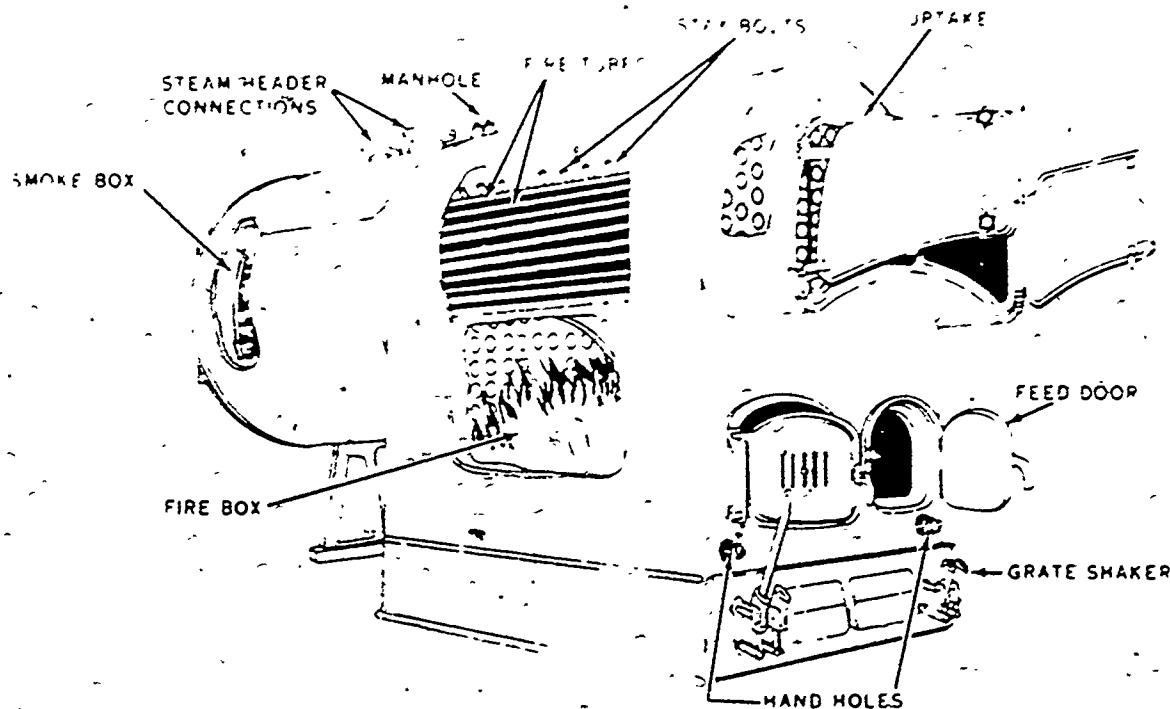

Figure 2-1. A locomotive boiler.
a. Locomotive boiler. The locomotive boiler, shown in figure 2-1, has a steel firebox consisting of inner and outer sheets that are held together with staybolts. The bolts consist of threaded rods that are screwed through threaded holes in the boiler metal sheets and hold them rigid. All four sides of the firebox are surrounded by water. The top metal sheet of the firebox is called the crown sheet, and it is supported away from the shell by crown staybolts and crown bolts. These crown sheets should be inspected periodically for leaks, deterioration, and leaking crown staybolts or crown bolts. This type of boiler is very similar in construction to the boiler used on locomotives.
that precipitates out of the boiler water. The water legs of the locomotive boiler are connected in the rear to the blowdown lines so that the sediment can be removed from the boiler. This prevents damage to the boiler from hot spots created by accumulated sediment keeping the water away from the heating surfaces of the water legs. You will notice that the boiler shown in figure 2-1 has handholes for accessibility in cleaning the water legs. There is also a manhole in the top of the shell for access to the watersides.